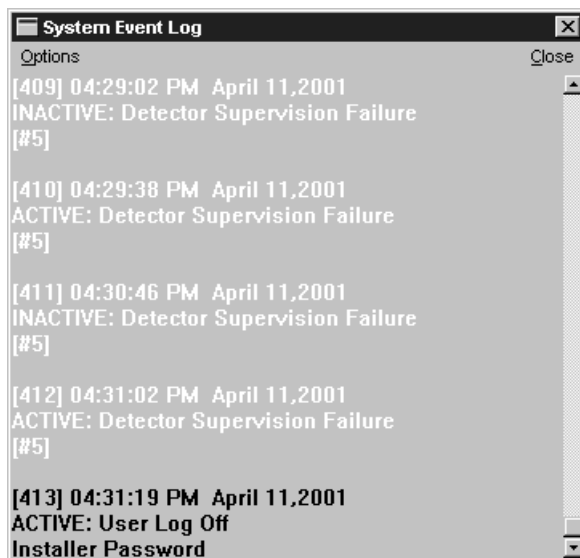

Figure 7-23. System Event Log Window
1. Select **System Log** from the main screen. Figure 7-23 displays.